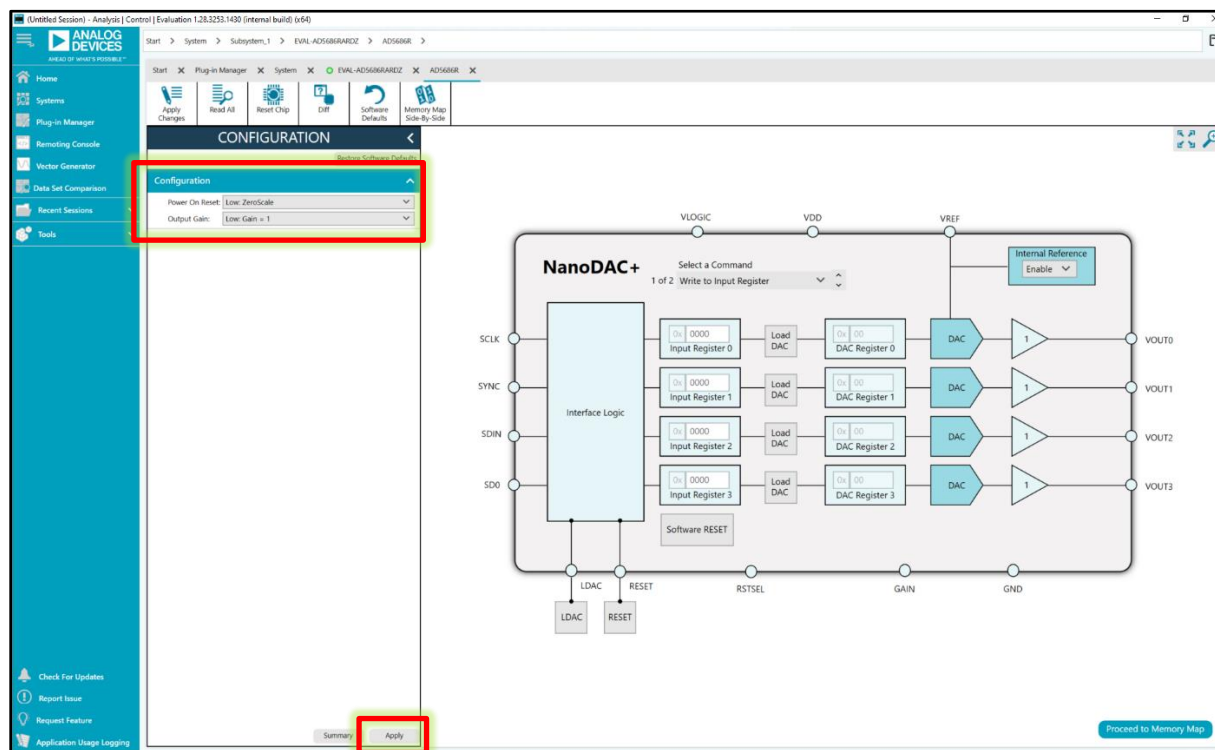
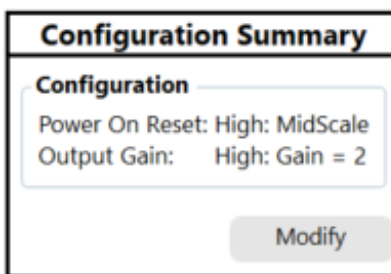

Figure 18
Figure 19
- The display window will transition to Figure 18. In the "Configuration" section, choose "High Gain = 2" for the "Output Gain" setting and "High: Midscale" for the "Power-on Reset" setting. Click on the "Apply" button. Once applied, the Configuration window should resemble Figure 19.